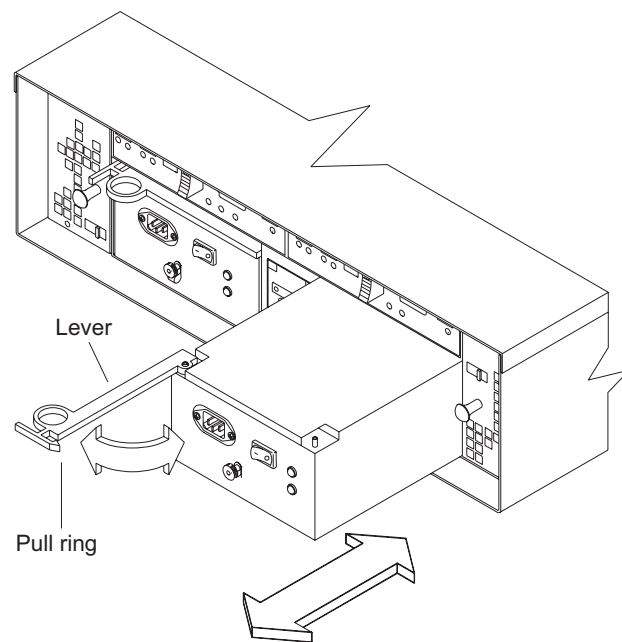

Figure 19. Removing a power supply
2. Pull the lever open 90° and remove the power supply, as shown in Figure 19.